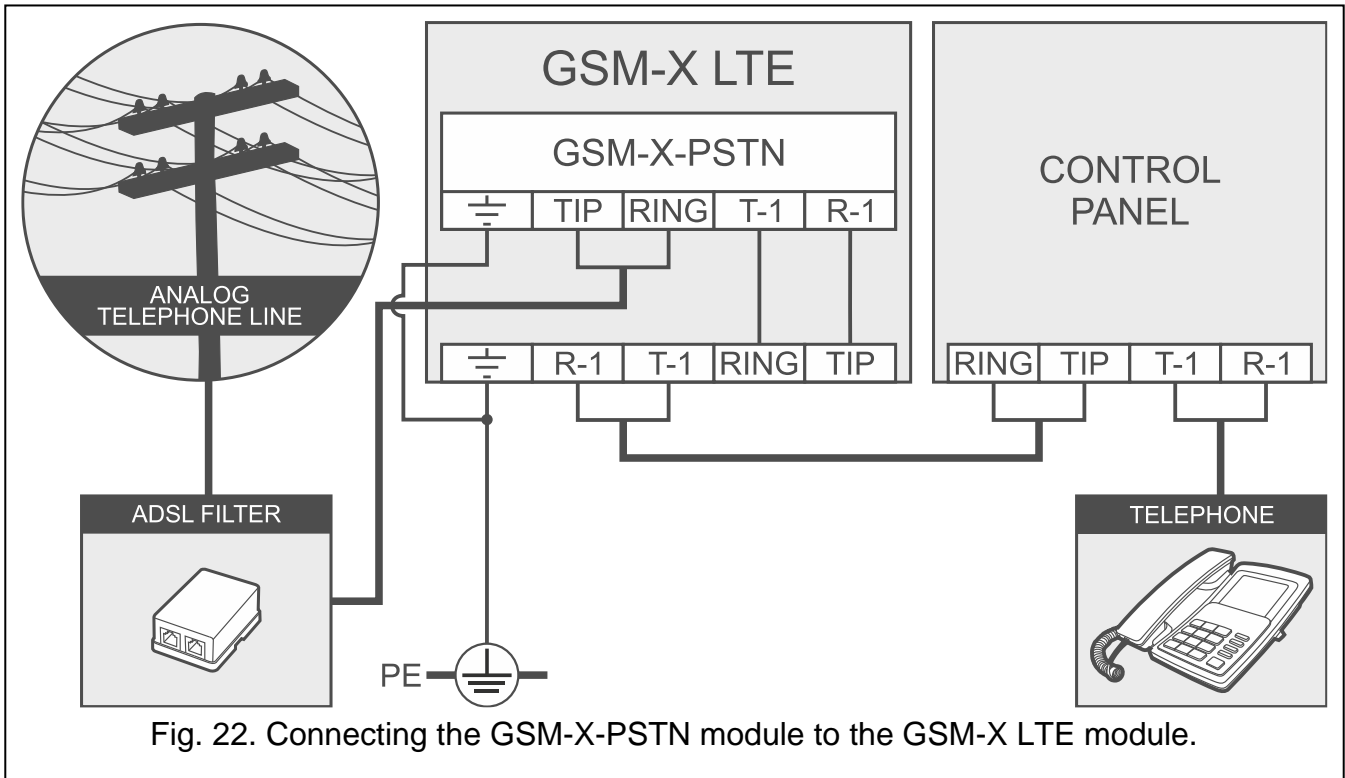

Fig. 22. Connecting the GSM-X-PSTN module to the GSM-X LTE module.
4. Connect terminals T-1 and R-1 of the module to terminals TIP and RING of the GSM-X LTE module (Fig. 22).
5. Connect the incoming telephone line to terminals TIP and RING. If the ADSL service is used on the premises, the module should be connected after the ADSL filter (Fig. 22).
6. Connect terminals T-1 and R-1 of the GSM-X LTE module to terminals TIP and RING of the control panel (Fig. 22). Any telephone located on the premises can be connected to terminals T-1 and R-1 of the control panel.
7. Connect terminals \equiv of the GSM-X LTE and GSM-X-PSTN modules to the protective earth conductor (PE) of the 230 VAC mains (Fig. 22). To make the connection, use a **wire** with $\geq 0.75 \text{ mm}^2$ cross-section. Never connect the \equiv terminal to the neutral conductor (N).